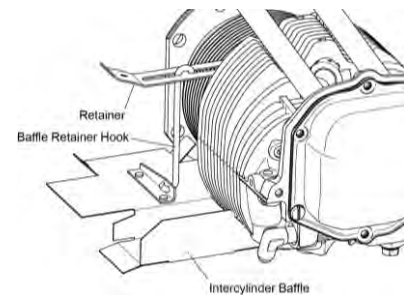

Figure 14
- (1) Turn the baffle retainer hook to disengage the retainer on the intercylinder baffle (Figure 14).
- (2) Remove the intercylinder baffle and hook from between the cylinders.